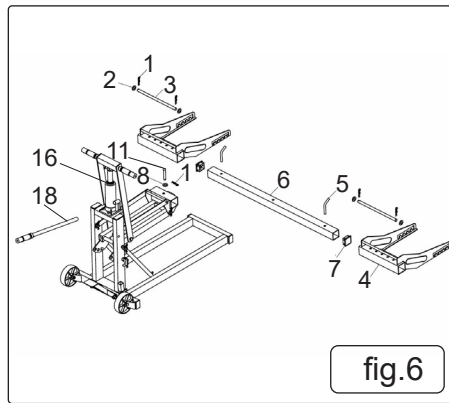

fig.6
- 4.1.10. Slide one Wheel Bracket Fork (4) over each end of the Extension beam (6). Insert Locking Pin (Angled) (5) to secure them in place. See fig.6.
- 4.1.11. Insert the Handle for Bottle jack (18) into the Bottle Jack (16). See fig.6.